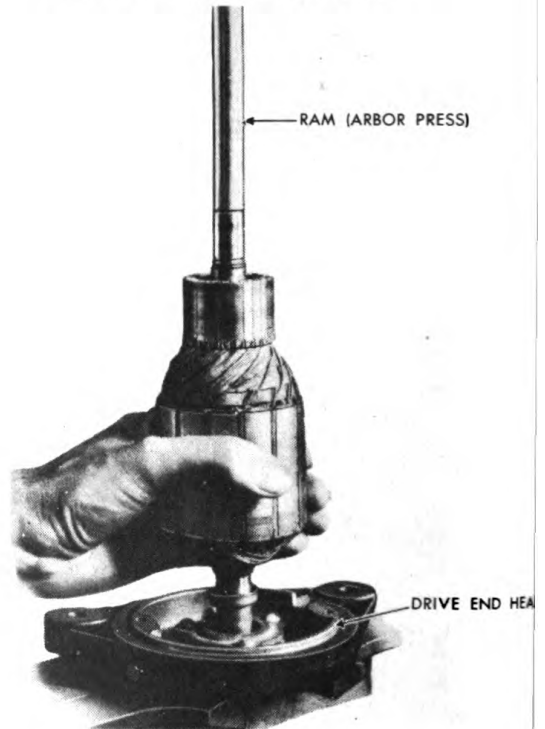

Figure 243. Pressing Armature into Drive End Head.
1. Assemble the armature in the drive end head with an arbor press as shown in Figure 243. Make sure the snap ring on the shaft fits down tightly against the bearing.